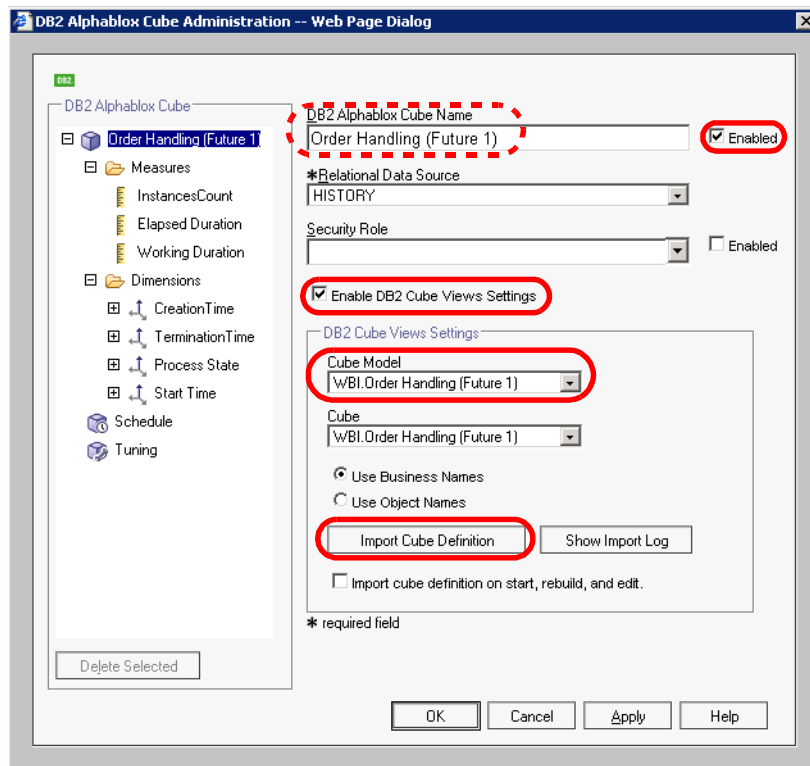

Figure 12-21 DB2 Alphablox Cube setup
- ▶ Select *Administration* → *Cubes* (Figure 12-21).